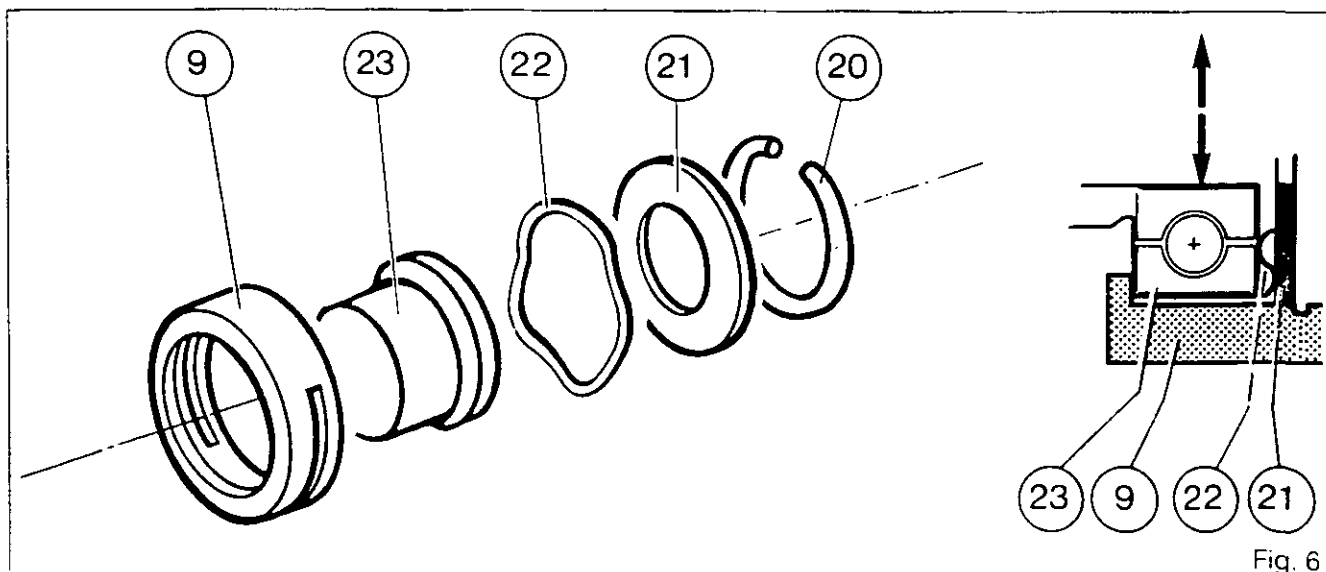

Fig. 6
9. Locate the circlip (20) in the groove of the carrier (9) and **ensure that it is correctly located**.
10. Check the radial clearance of the release bearing (23) in the housing of the carrier (9). (Fig.6)